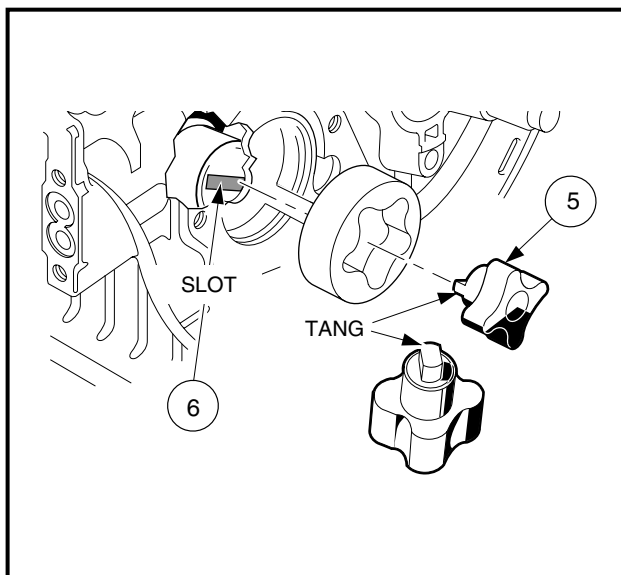

Figure 13-71 Install Inner Rotor
2. Install the inner rotor with its tang in the slot in the end of the camshaft (**Figure 13-71, Page 13-35**).